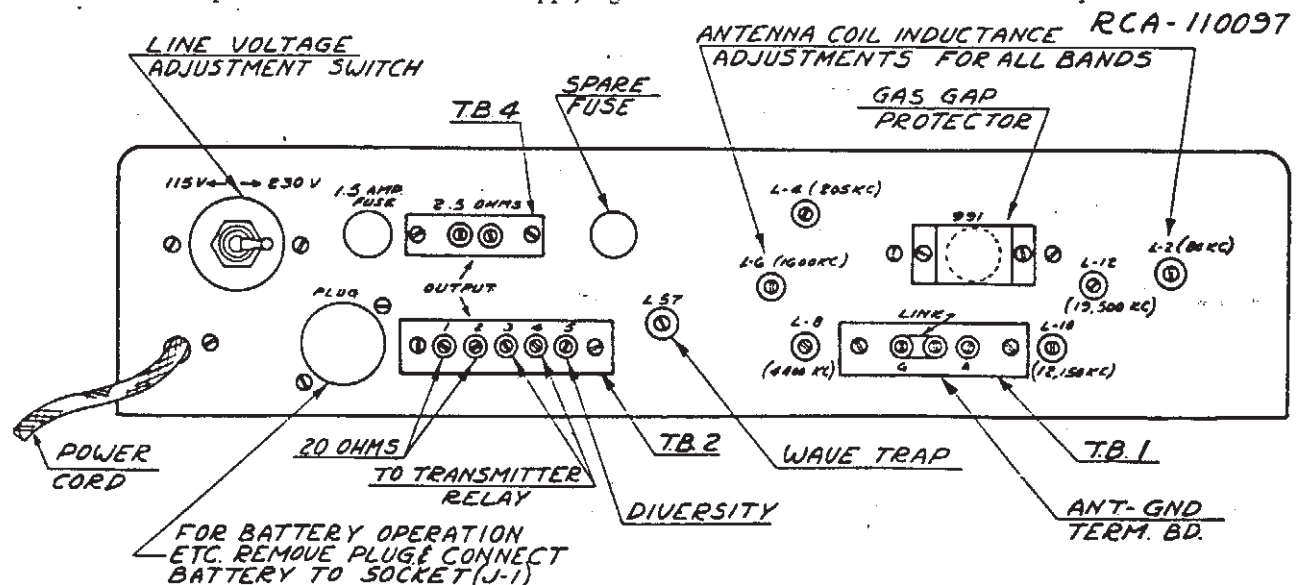

Figure 3.—General Purpose Communications Receiver—Rear Apron
The antenna terminal board is provided with three terminals (see Figures 3 and 7), two of which may be joined together with a link. When a single wire antenna is used, the link should be closed and the antenna connected to "A". If a ground is used, it should be connected to "G".
4.5 **Speaker:**—Terminals for connection of a loudspeaker are indicated in Figures 3 and 7. The output transformer is designed to match a p.m. dynamic speaker having 2.5 ohms impedance.
2. Transmit position which gives energized tube filaments, open plate circuits, and shorted terminals (for transmitter relay) on the speaker terminal board on the back of the chassis. (3. & 4. on T.B.-2.). Connect relay to these two terminals for transmitter operation. (See Figure 3.)
Refer to Figure 3: Connect together the terminals, marked "Diversity" of the receivers, and equip each receiver with a separate antenna. Tune each receiver to the same station as explained in Section 5.12 above.